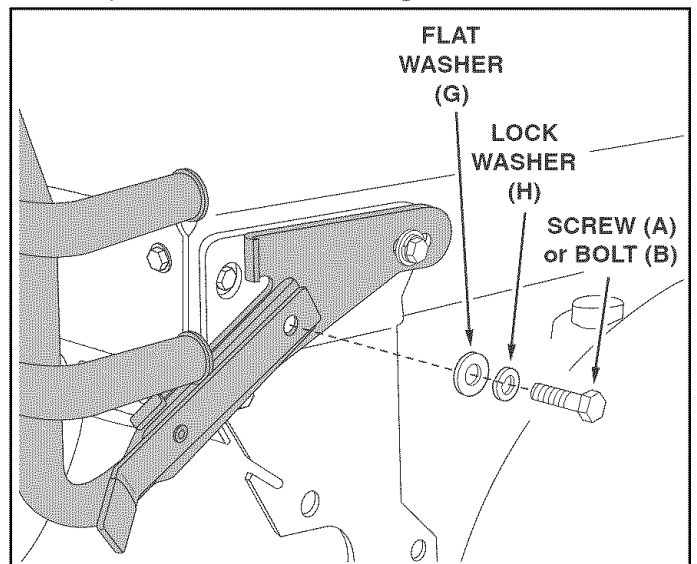

FIGURE 6
STEP 6: (SEE FIGURE 6)
3. Fasten locking lever and bumper to mounting bracket using a screw (A) or bolt (B), a lock washer (H) and a flat washer (G). Use screw (A) for LT tractors and bolt (B) for GT tractors. Assemble screw or bolt through pivot spacer in rear hole in bumper and into tractor frame. **Tighten.** Repeat for other side.